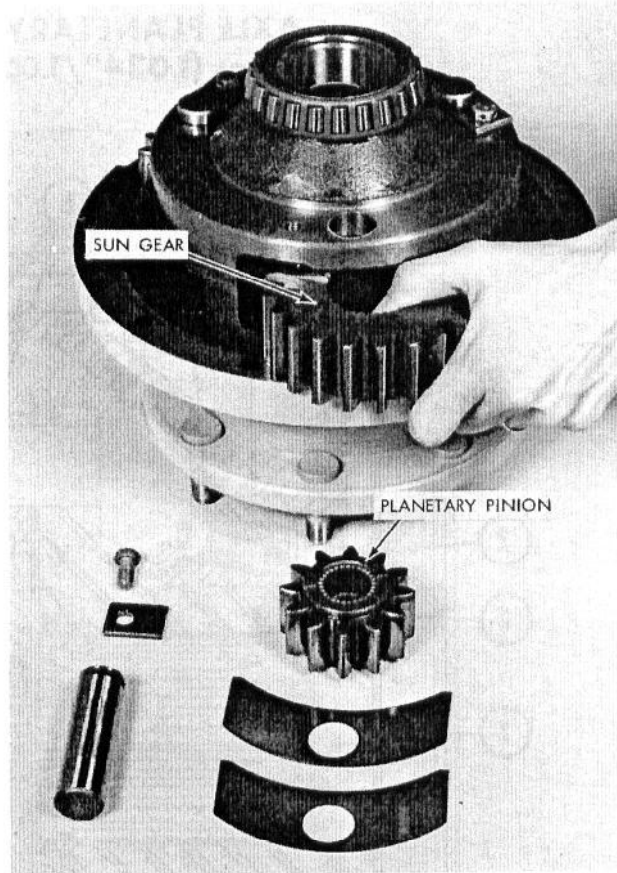

Fig. 41 - Sun Gear Removal or Installation
3. Remove the sun gear through the large opening. See Fig. 41.